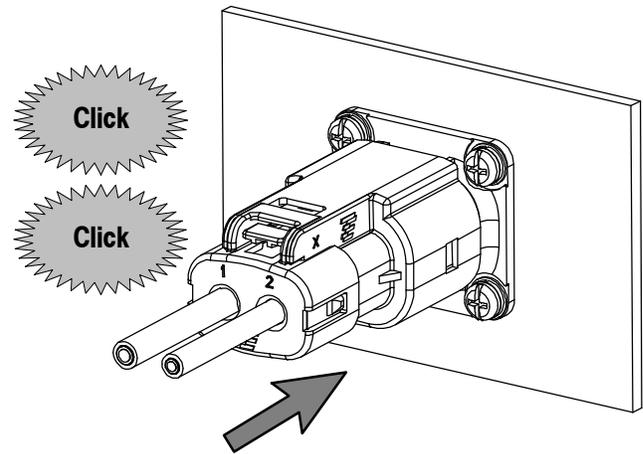

Figure 12
2. Push the HVA280 plug assembly and header assembly together until the main latch engages with a click. Note that the connector system has two latches, so two clicks will be heard during mating. If the connector is not fully mated, the HVIL circuit could open and shut down the electrical system. See Figure 12. If the connector halves do not fit together easily, check the following: